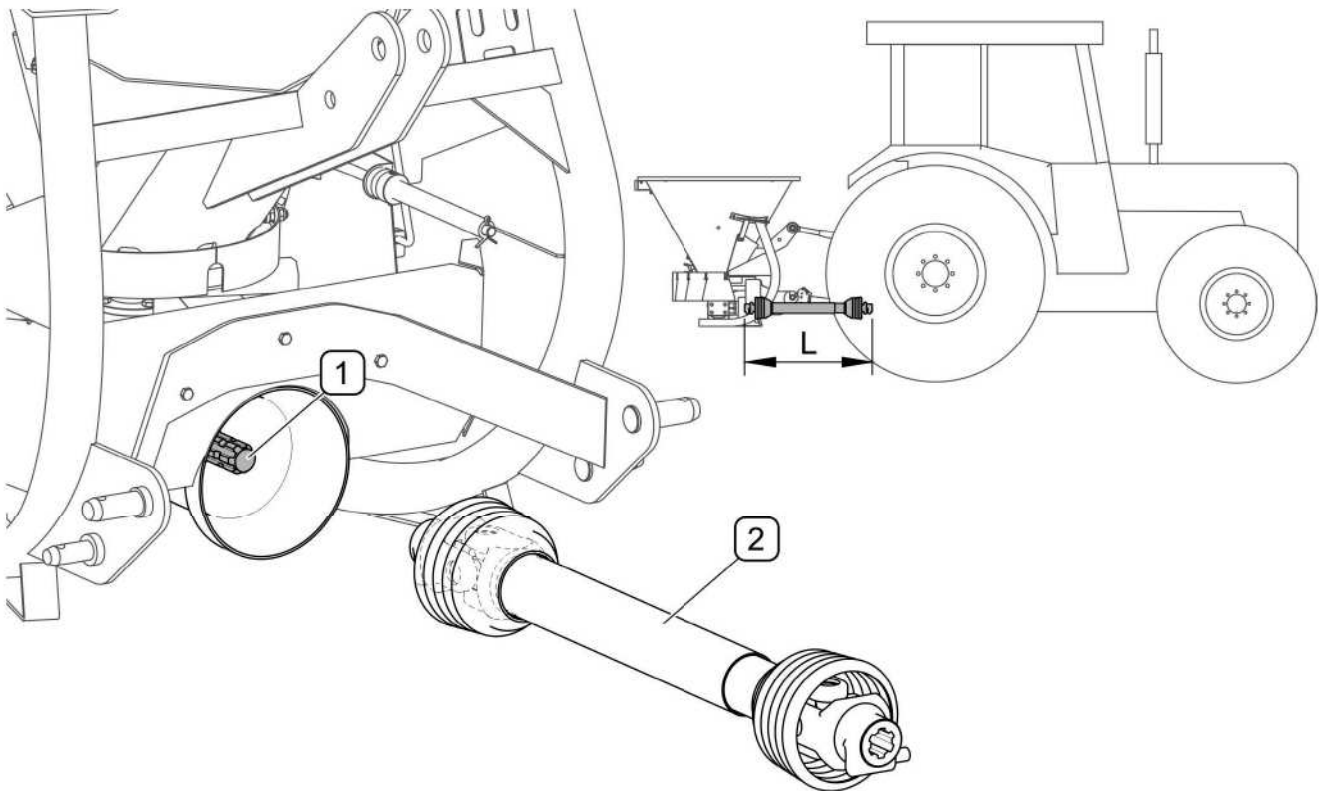

FIG. 4.3 Connecting of PTO shaft
Before connecting the PTO shaft it is absolutely necessary to carefully read the Operator's Manual attached by the Manufacturer of the shaft and observe the instructions contained in it. Before connection to the tractor check the technical condition of the shaft guard, the completeness and condition of the protecting chains and the general technical condition of the shaft. The shaft length should be equal to (L) in order to enable its connection to the hitched machine (FIG. 4.3), i.e. it should not be longer than the distance between the front of the machine's PTO shaft and the front of the tractor's PTO shaft. This distance varies depending on tractor models and it may be within the range 690 ÷ 765 mm for category I three point linkage and 820 ÷ 900 mm for category II three point linkage